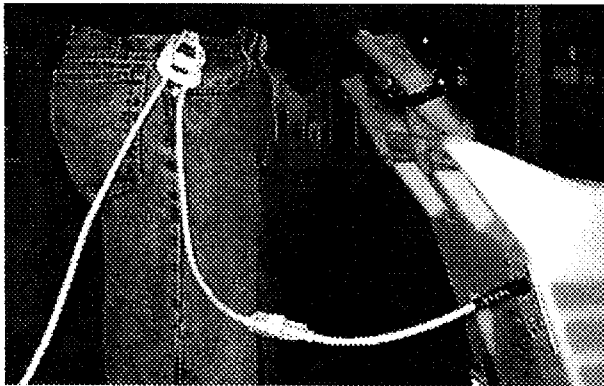

FIG. 1.
1. Connect 75'/23m (120V Model Only) extension power cord to machines pigtail. Use belt clip as shown. (Figure 1)